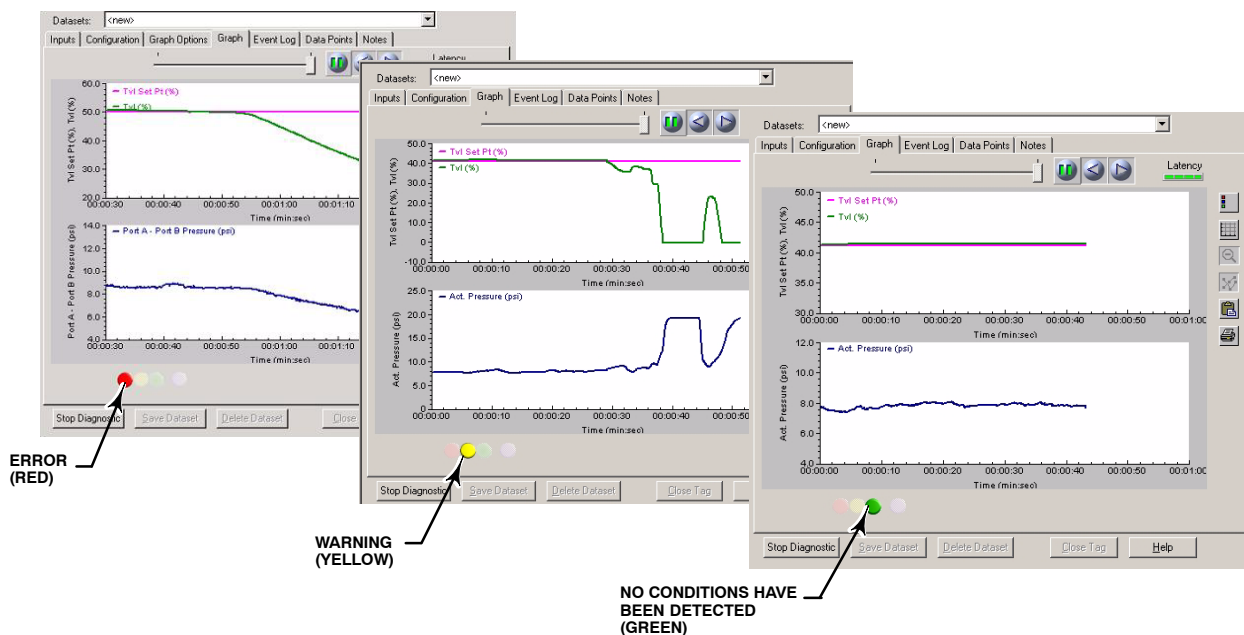

Figure 3. Red/Yellow/Green Condition Indicators, Shown in AMS ValveLink® Software
- Red/Yellow/Green Condition Indicator (see figure 3)